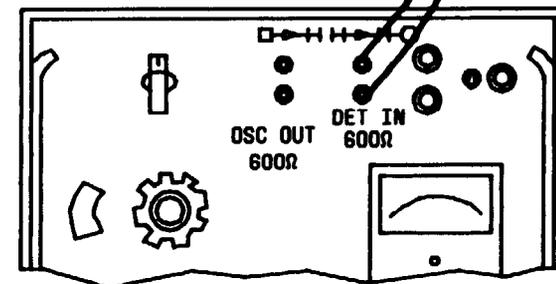

FIG. 4
- [8] SEE FIG. 4. CONNECT DET IN IN 600Ω INPUT OF TMS TO OUTPUT OF TRANSFORMER
- [9] SEE FIG. 4. CONDITION AUDIO OSCILLATOR FOR TEST [DLP-528] AND CONNECT TO MIXING PAD
- [10] SEE FIG. 4. CONNECT 600Ω RESISTOR TO MIXING PAD